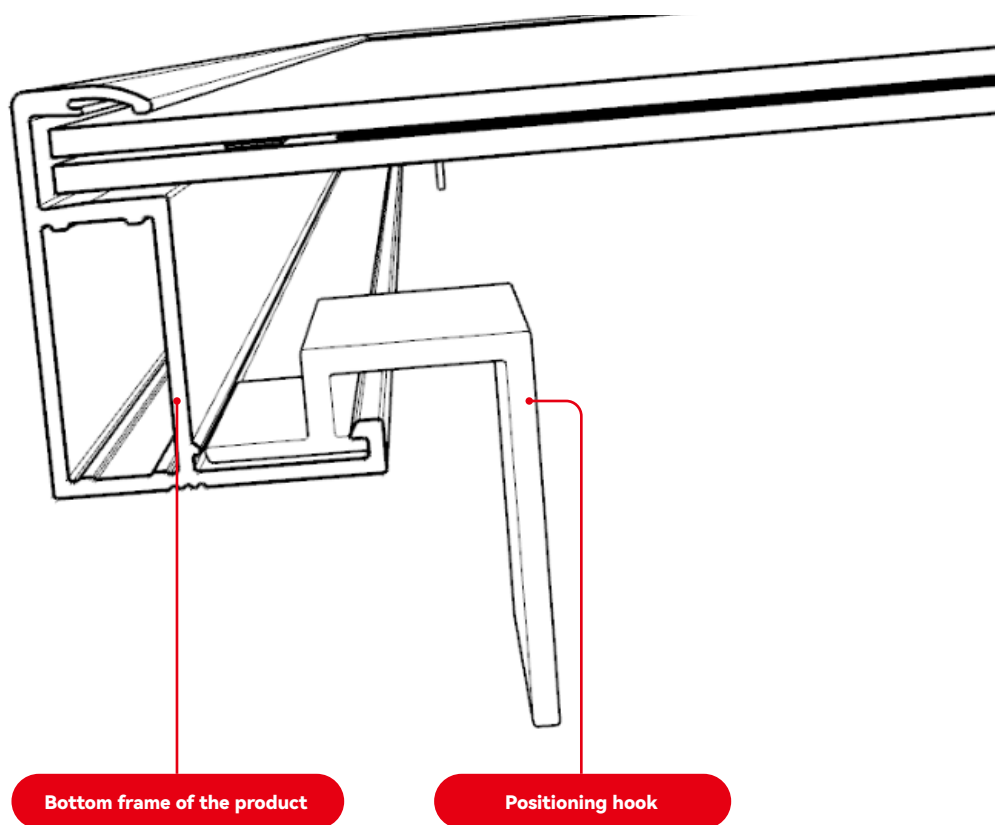

FIGURE 23
- Before installation of the second row of the products, install two positioning hooks on the bottom frame of the product. (Figure 23) The distance between two positioning hooks and the right and left frames should be 200mm (Figure 24).